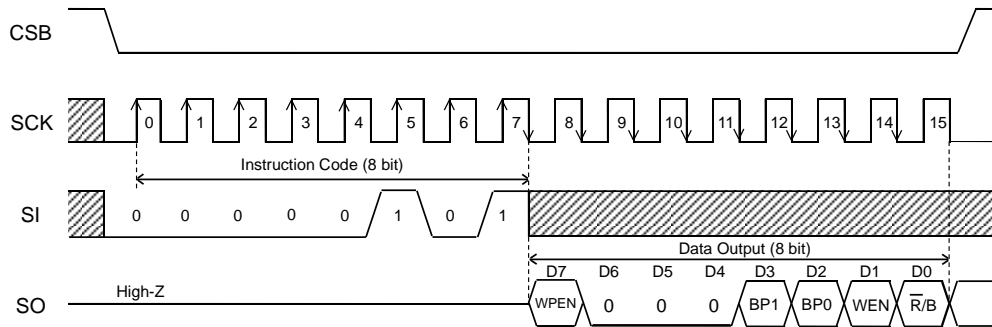
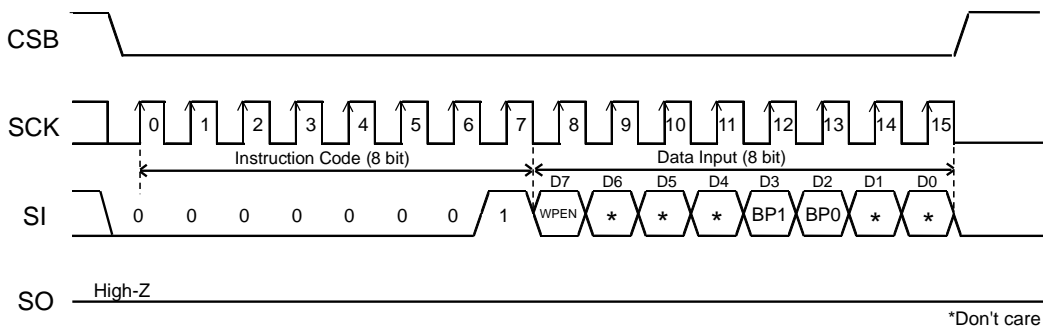

Figure 45. Read Status Register Command
Figure 46. Write Status Register Command
*(Note 18)* Refer to Figure 45 and Figure 46